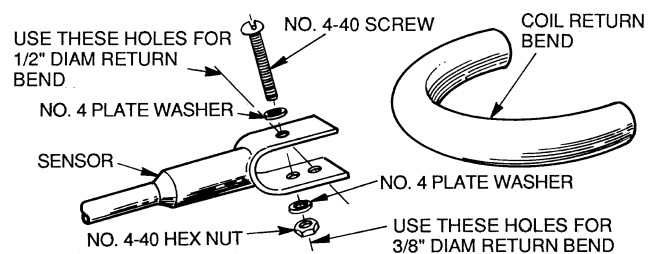
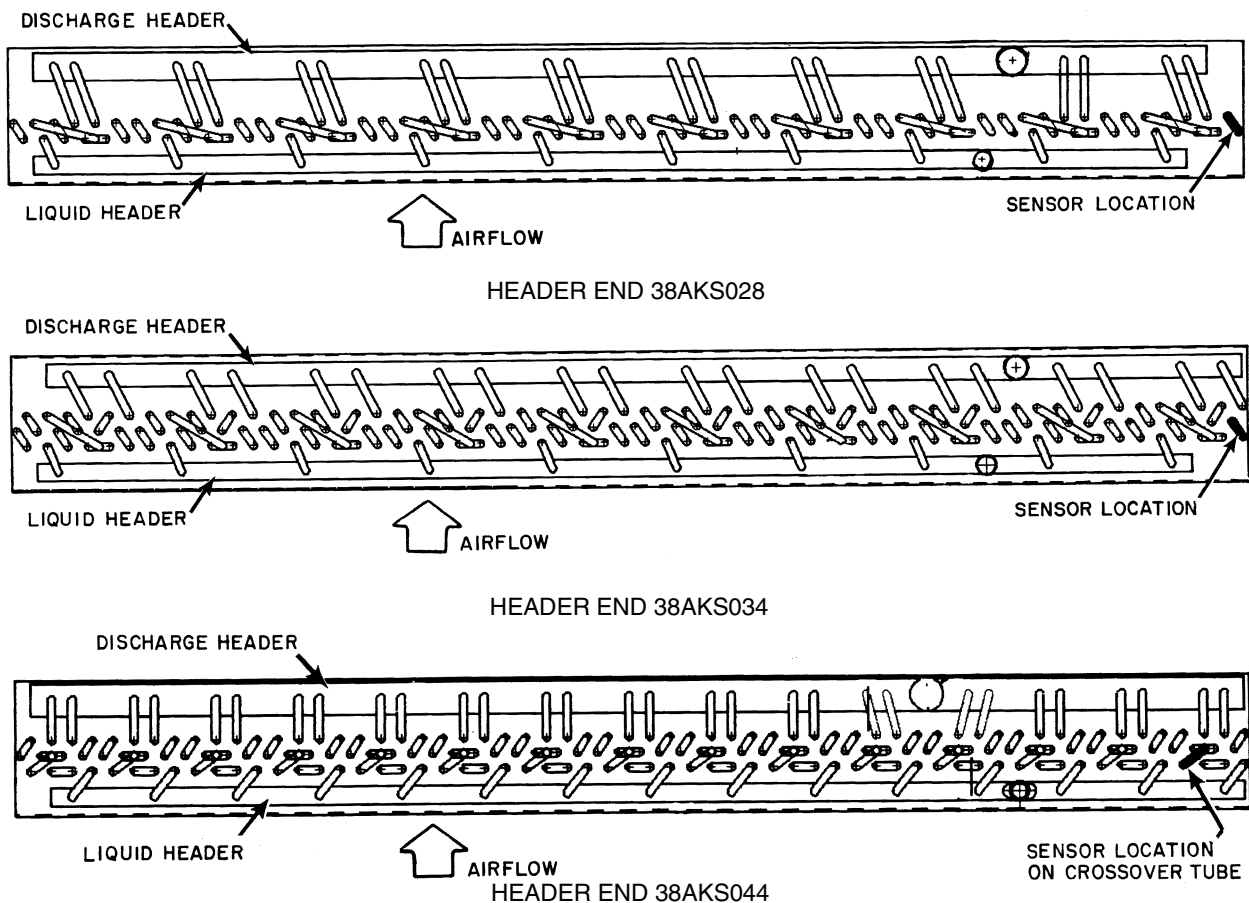

Fig. 13 — Sensor Installation
Fig. 14 — Motormaster® Controller Sensor Locations on Condenser Coil Header Ends, 38AKS Units
18. Secure the sensor to the coil return bend, or to cross-over tube for 38AKS044. Use no. 4-40 screw, two plate washers, and nut provided. See Fig. 13. See Fig. 14 for proper return bend for each unit.